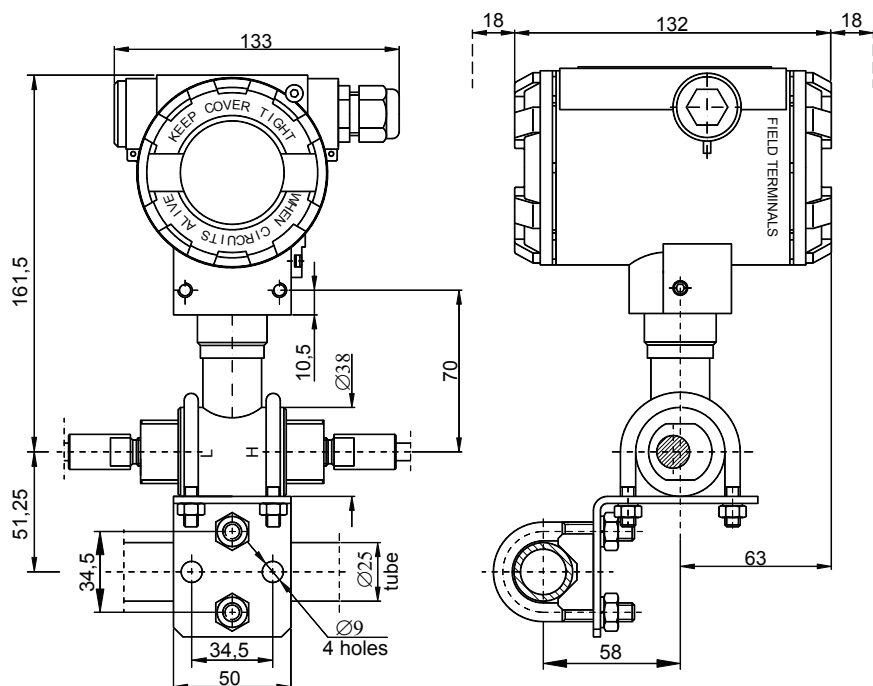

Fig 8 Example of mounting of APR-2000ALW (Ex) Safety transmitter with C type connector on tube.
7.2.1. Transmitters **APR-2000ALW (Ex) Safety** can be mounted directly on rigid impulse tubes. Differential pressure transmitters are mounted on three- or five-way valves. Such connection of transmitter allows its easy cutting off of the system for washing of measuring membrane, local calibration, diagnostics, etc. Connections of transmitters with two stub-pipes M20 x 1.5 (type P connector) are to be executed using straight couplers with type C nuts to PN-82/M-42306. When flexible tubes are used in connection transmitters are to be additionally mounted on tube, panel, supporting structure. Transmitters with **type P stub pipes**, or other type, can be mounted using mounting set "Ø25 holder" (Fig.8) for tube Ø25 or to flat surface, using angle section.